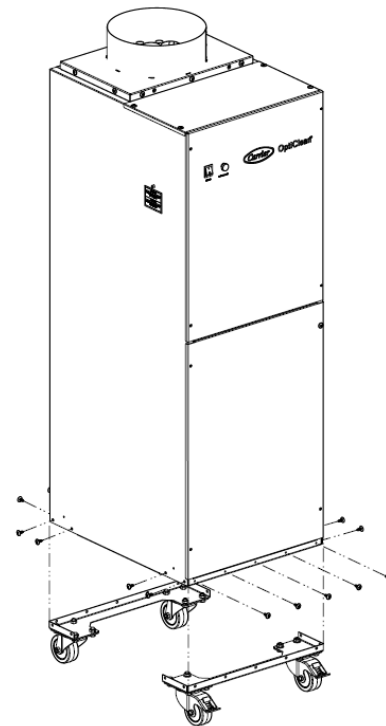

Fig. 3 – Installation Detail
3. Place the Caster Wheel Assembly at the bottom of the unit See Fig. 3.
4. Fasten the Caster Wheel Assembly to the bottom . See Fig. 3.